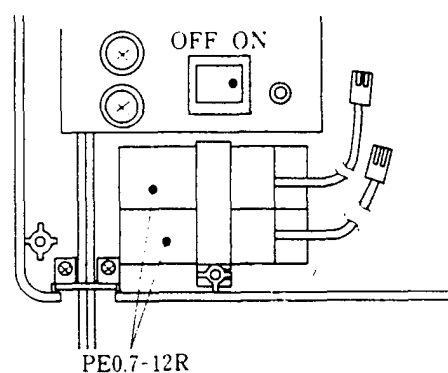

Figure 1-14 Disconnecting Built-In Batteries
1. Disconnect the built-in batteries from the power supply. (Refer to Figure 1-14 - Disconnecting Built-In Batteries.)